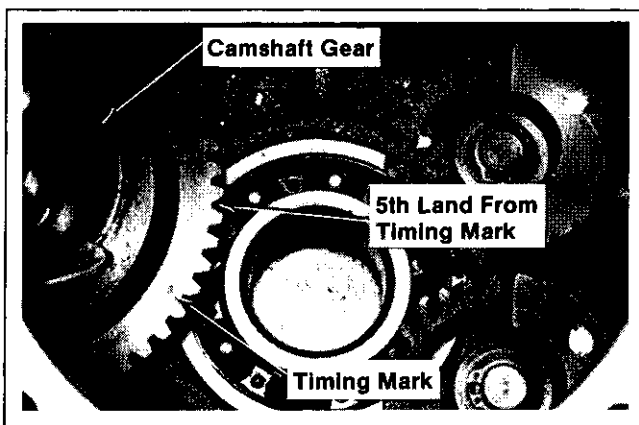

Figure 12-19. Marking Land On Camshaft Gear.
Camshaft - Locate the timing mark on camshaft. Starting with the land next to the timing mark, count **five (5)** lands in a **counterclockwise** direction. Mark the fifth land. Refer to Figure 12-19.